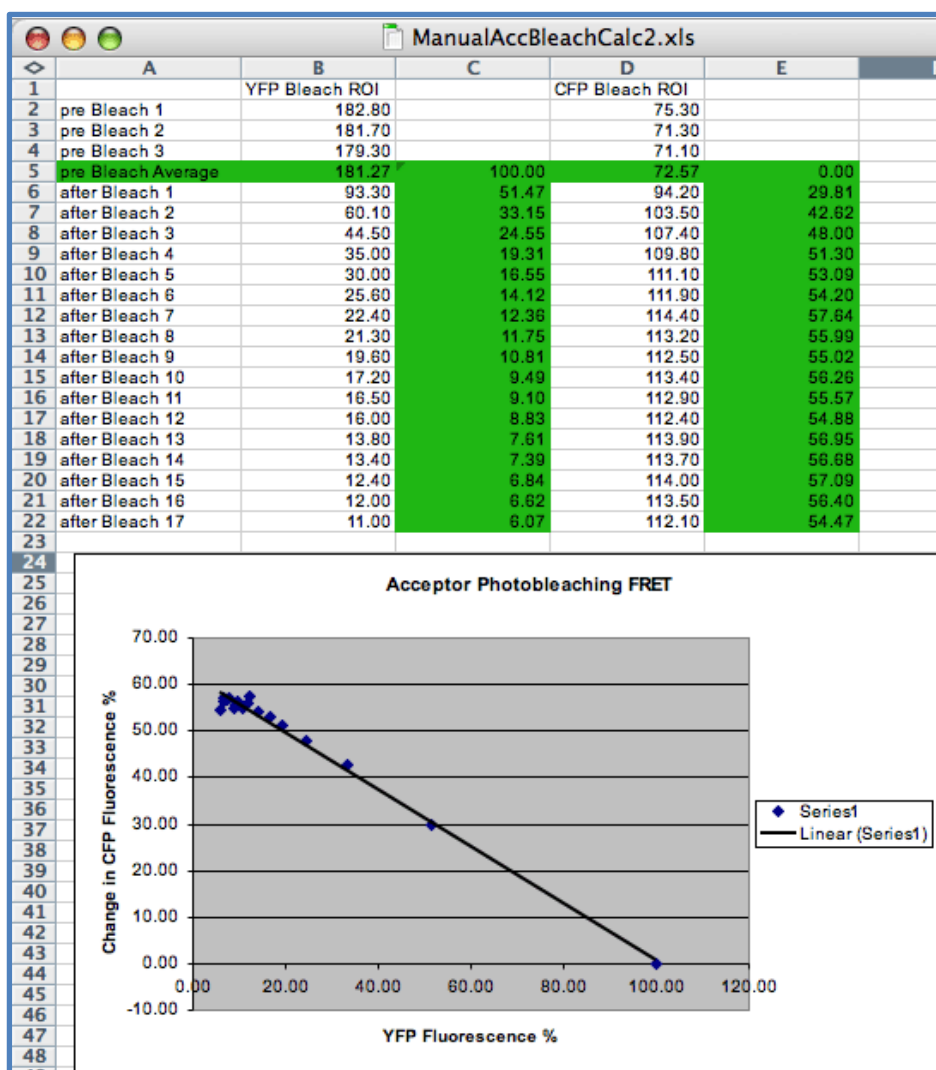

Figure 6
- Plot a graph of % initial YFP intensity {100 x intensity value / average pre-bleach value} against % change in CFP intensity {(100 x intensity value / average pre-bleach value) - 100} see Figure 6.
- Apply linear regression back to the X-axis to give values for donor intensity without acceptor (CFPmax). In the example shown in Figure 6, the % change in CFP intensity when YFP intensity is zero is 62%. Therefore CFPmax is 162%.
- FRET efficiency (E) can then be calculated as follows: